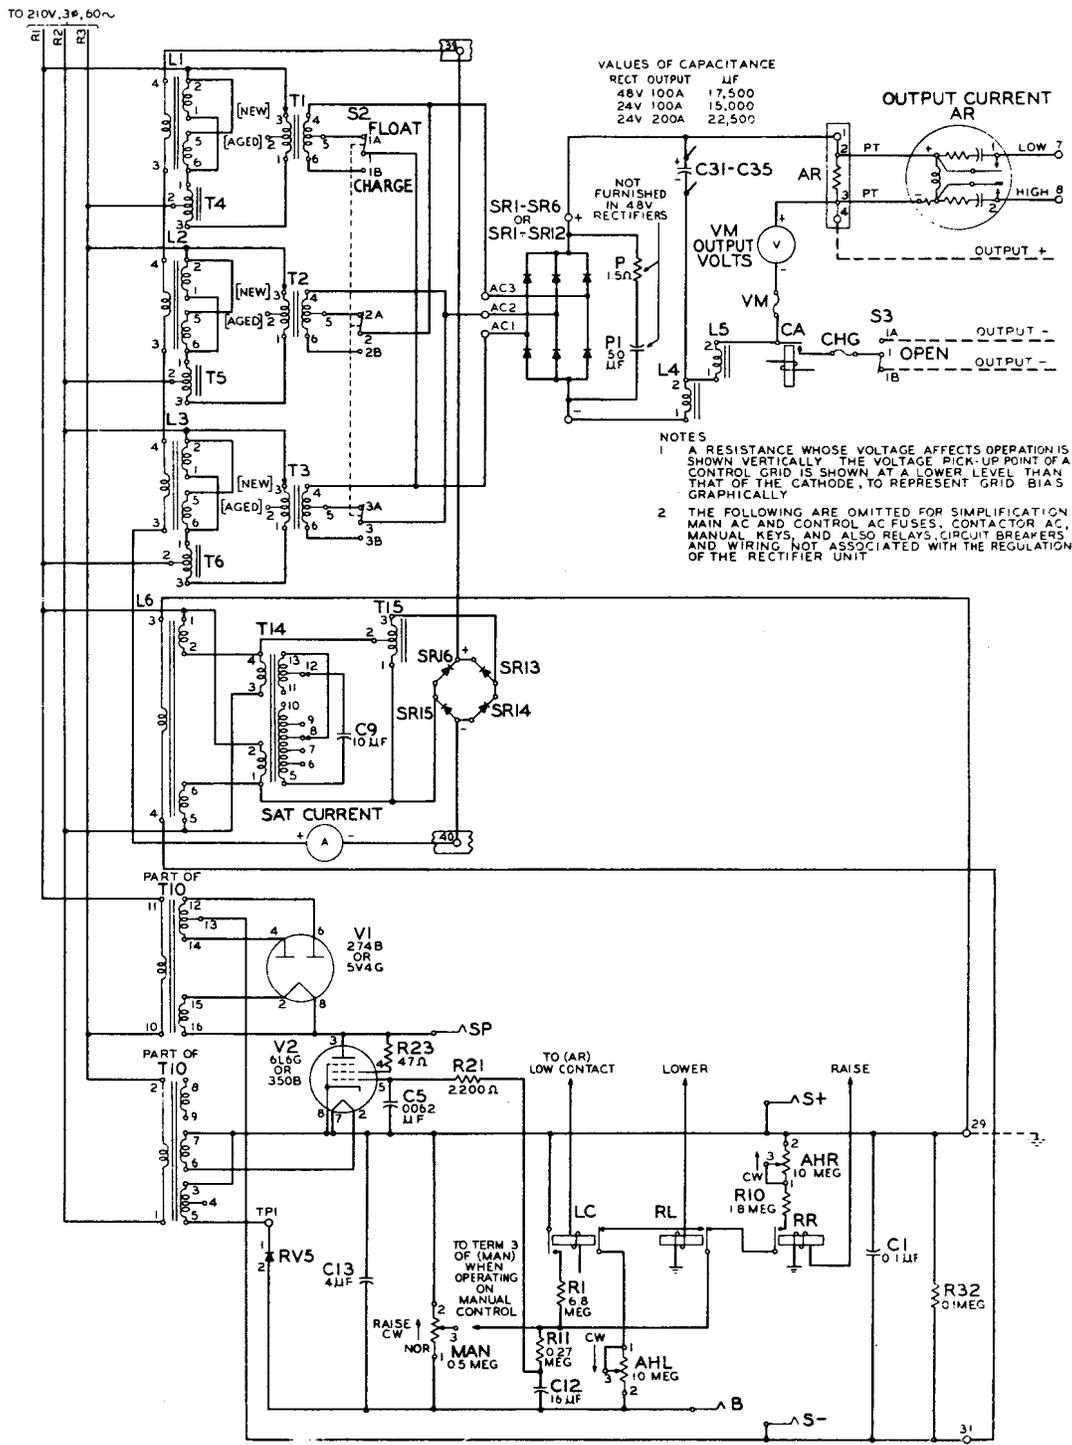

Fig. 1 - Functional Schematic
1.08 The instructions are based on drawing SD-81115-01, Figures 1 and 3. For detailed description of the operation, see the corresponding circuit description.
How the Rectifier Unit Works (See Fig. 1 – Functional Schematic)
2.12 Observe the directions in 2.11. Operate the MAN-TEST key (not shown in Fig. 1) to MAN and the ON-OFF key (not shown) to ON. Turn the shaft of the MAN potentiometer
4.05 Should any of the following troubles develop, it is suggested that the possible cause be checked in the order given. If the trouble is not found, look for loose or open connections or short circuits due to foreign matter lying across wiring terminals. If a check of the possible causes listed below or the use of the point-to-point voltage table does not lead to the location of the trouble, it is advisable to make resistance measurements with the circuit completely de-energized, comparing the measured values with the values shown on Fig. 1.